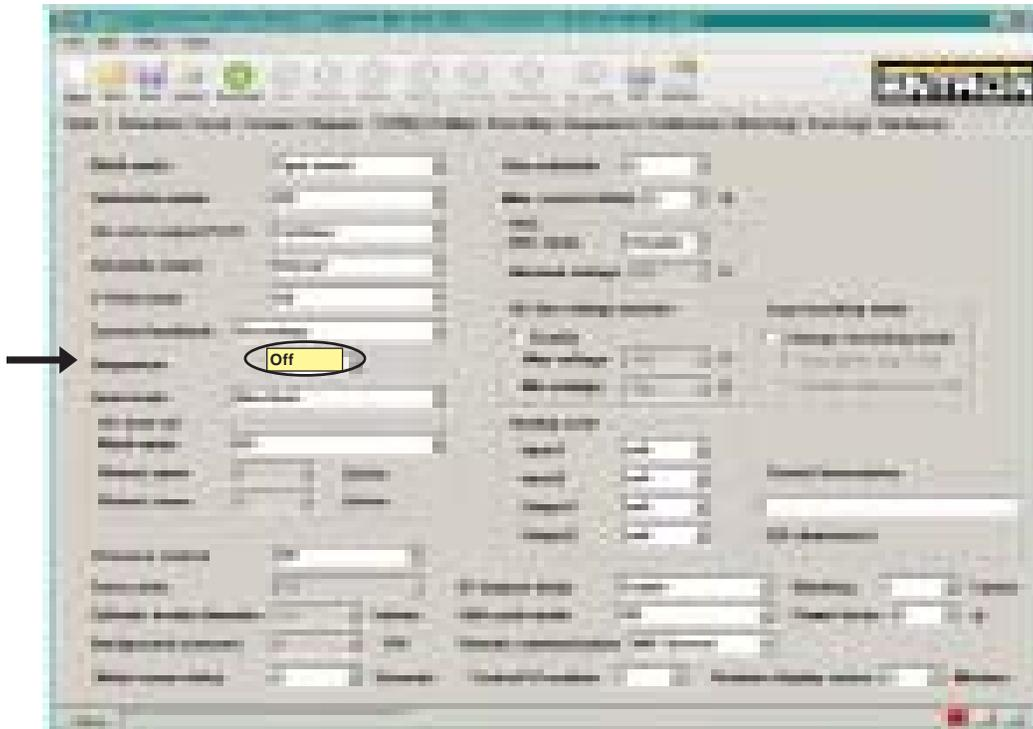

Figure 9-40. Configuration page
- B. Make sure SEQUENCER function is Off on Configuration page (Figure 9-40).